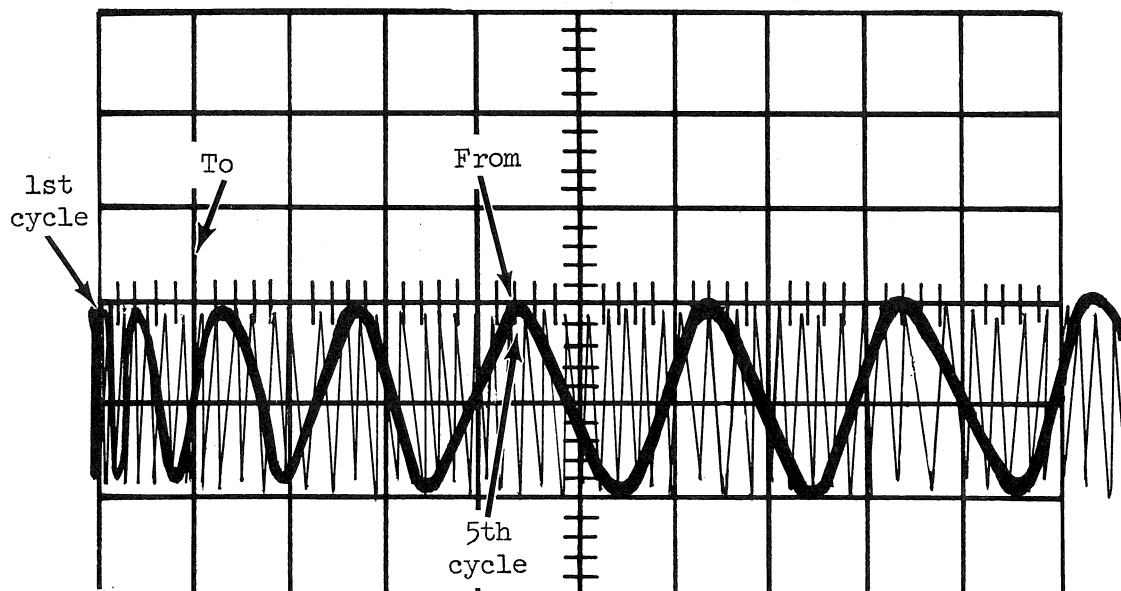

Figure 103
7. Position the start of the sweep to the left of the graticule. Set the INTENSITY cw until the start of the sweep can be seen. Position the 5th cycle to the 2nd graticule line. (See Fig. 103)